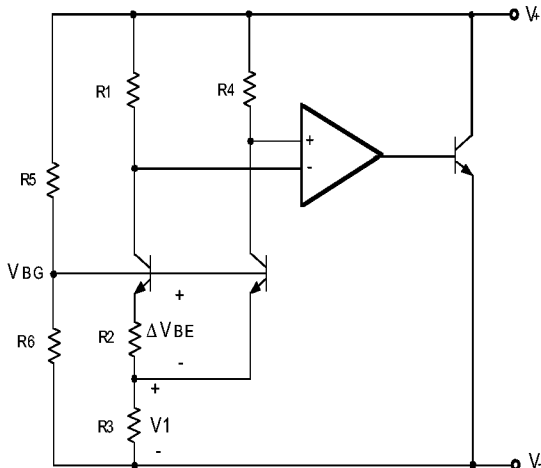

Figure 7. AD1586/7/8/9 Simplified Schematic
The AD 1586/7/8/9 family uses the "bandgap" concept to produce stable, low-temperature coefficient voltage references which are suitable for high accuracy data-acquisition components and systems. This family of precision references makes use of the underlying temperature characteristics of a silicon transistor's base-emitter voltage in the forward-biased operating region. Under this condition, all such transistors have a $-2 \text{ mV}/^\circ\text{C}$ temperature coefficient (TC) and a V_{BE} that, when extrapolated to absolute zero, $0 \text{ }^\circ\text{K}$, (with collector current proportional to absolute temperature) approximates the silicon bandgap voltage. By summing a voltage that has an equal and opposite temperature coefficient of $+2 \text{ mV}/^\circ\text{C}$ with the V_{BE} of a forward-biased transistor, a zero TC reference can be developed. In the AD 1586/7/8/9 simplified circuit diagram shown in Figure 7, such a compensating voltage, V_1 , is derived by driving two transistors at different current densities and amplifying the resultant V_{BE} difference (ΔV_{BE} - which has a positive TC). The sum (V_{BG}) of V_{BE} and V_1 is then scaled by the R_5/R_6 resistor network to produce stable reference voltage outputs of 2.5V, 3V, 4.096V, and 5V. To ensure that the bandgap cell and resistor network maintain their required current levels, a buffer amplifier drives an output transistor to sink any excess current.